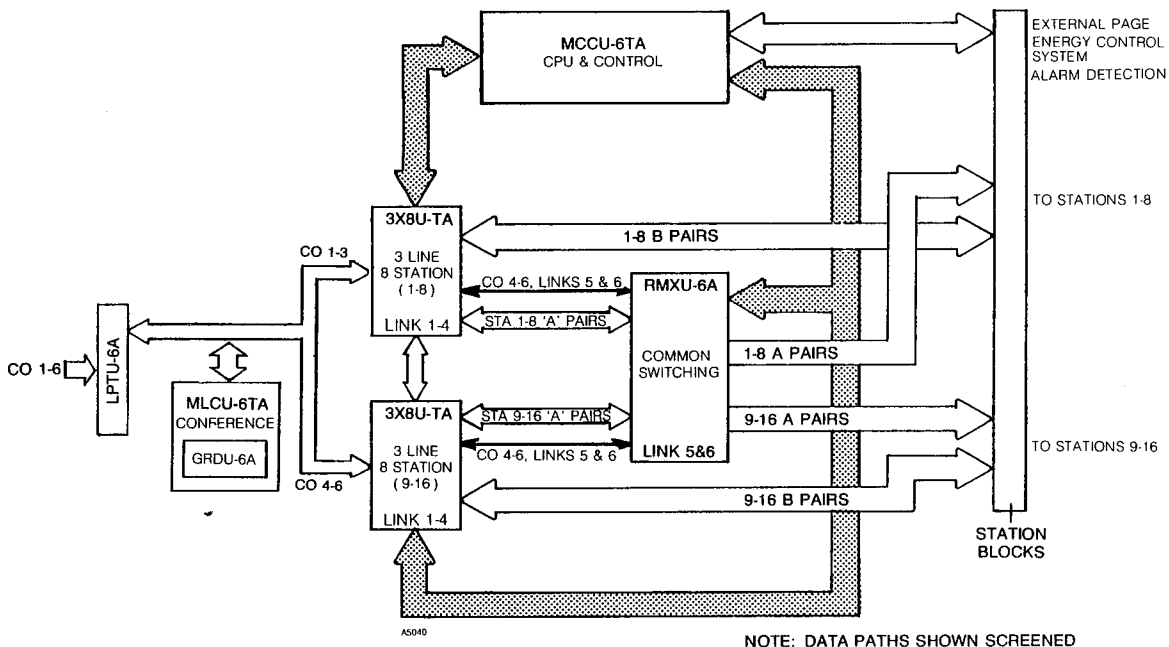

Figure 7-1 SYSTEM BLOCK DIAGRAM, EK-616
**2.01** The EK-616 system ( Figure 7-1 ) uses microprocessor technology to process outside calls, manage internal system traffic, and provide the hardware control required to execute the system features and programmable options. The KSU ( Key Service Unit ) is the system architectural base and interfaces the telephone stations, power supply and external devices to the plug-in circuit boards.